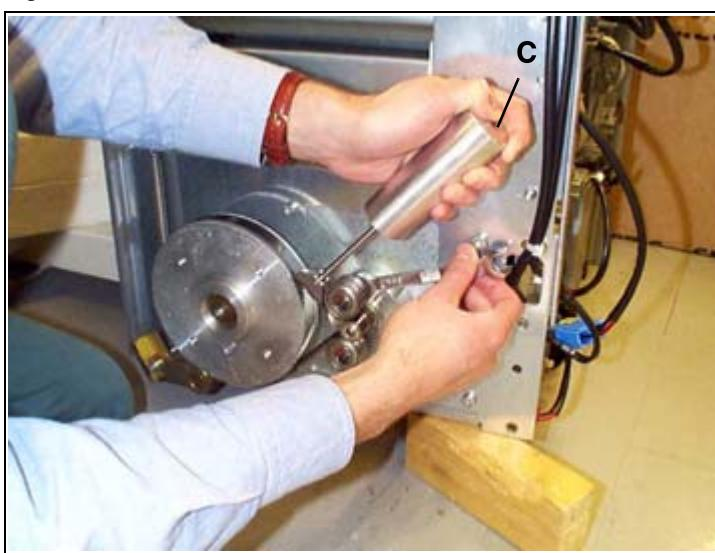

Fig. 78: Belt_adjustment_new
- Press the special adjustment mechanism on the transmission belt and hold one finger on the top. When the button (C/Fig. 78 / p. 82) is the same height as the upper part of the adjustment mechanism, the pressure is adequate.